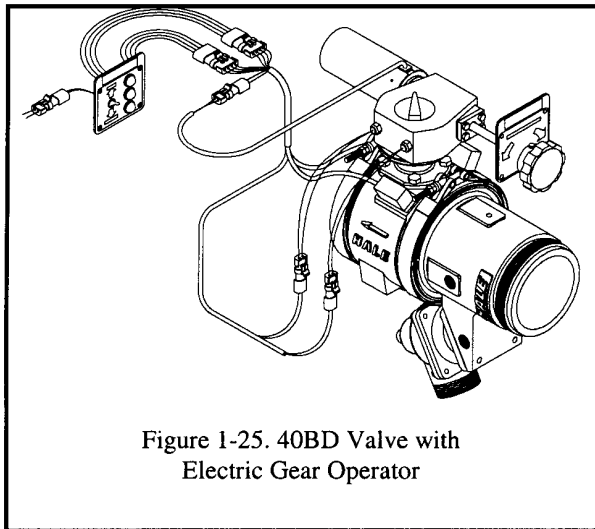

Figure 1-25. 40BD Valve with Electric Gear Operator
- ❑ Electric gear operator with optional manual override (see figure 1-25).